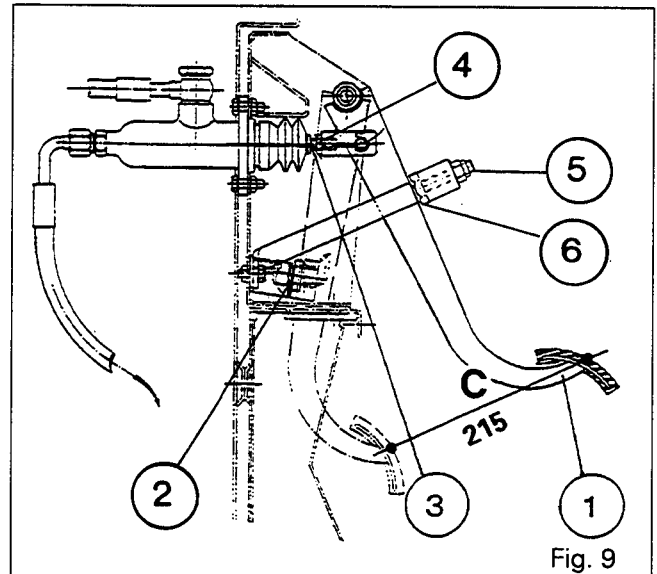

Fig. 9
- 200 mm : spring loaded (Fig. 9)